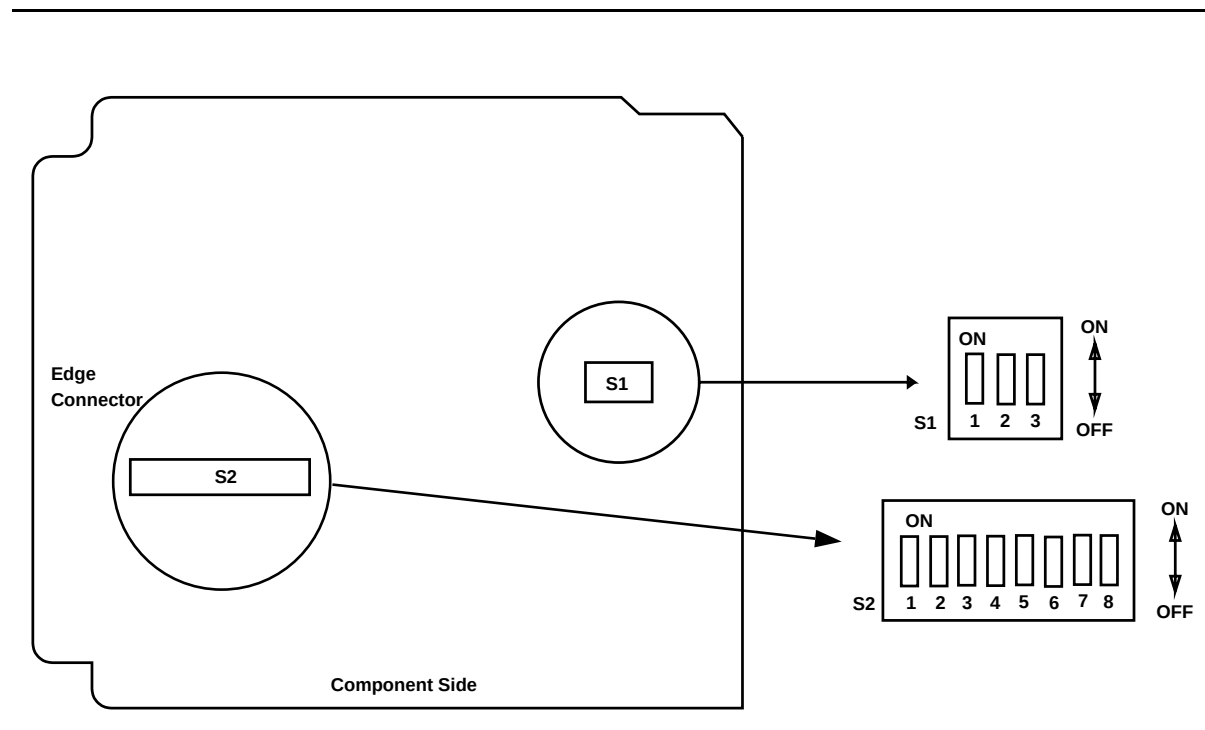

Figure 1 – BBG8 SYSCTL Option Settings
3. Obtain a **BBG8 SYSCTL** circuit pack and set switch **S1** sections **S1-1**, **S1-2**, and **S1-3** to **OFF**, **OFF**, **OFF**, respectively, to set the product (shelf) type. See Figure 1.